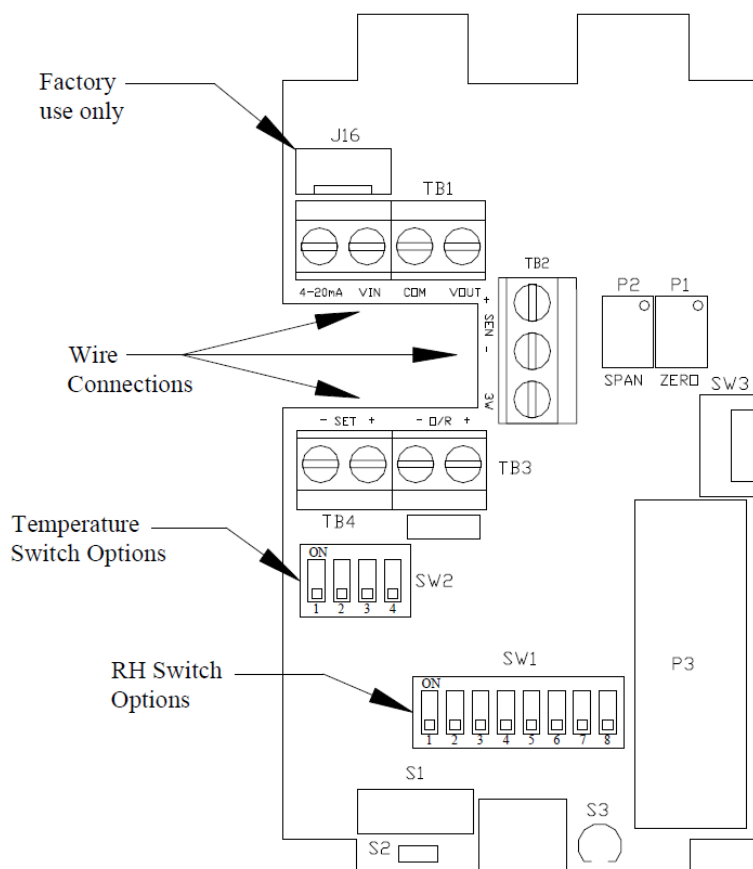

Figure 2
**NOTE** Potentiometers P1 (Zero) and P2 (Span) in Figure 2 are not used for RH sensor calibration. They are used for factory use only!